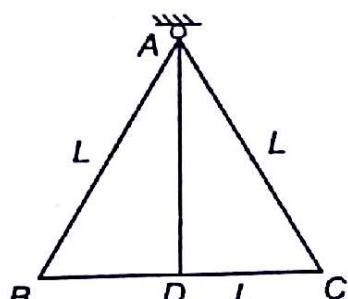

Fig. 9.32
- 9.1** An equilateral triangular frame ABC of side L is shown in Fig. 9.32. A vertical member of AD of negligible weight is also connected. Weight of each side of frame is W . What is tension in member AD ?